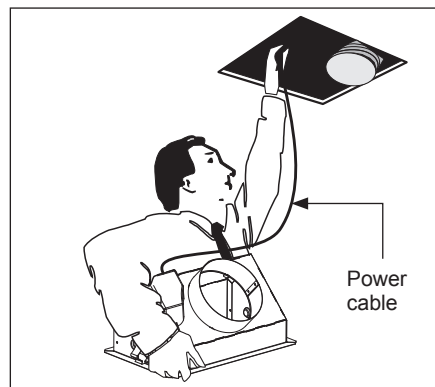

Fig. 19
3. Feed ducting and blower through hole in ceiling directing it towards the installation position of the outlet grille. Position blower so that the short length of ducting and power supply cable (models 34401 & 34402) is sitting next to the hole as per Fig. 19.